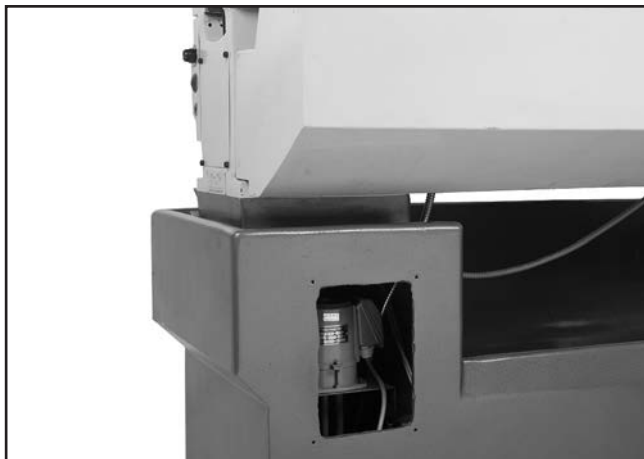

Figure 57. Coolant pump and reservoir.
1. Remove the access cover at the rear of the lathe (**Figure 57**).